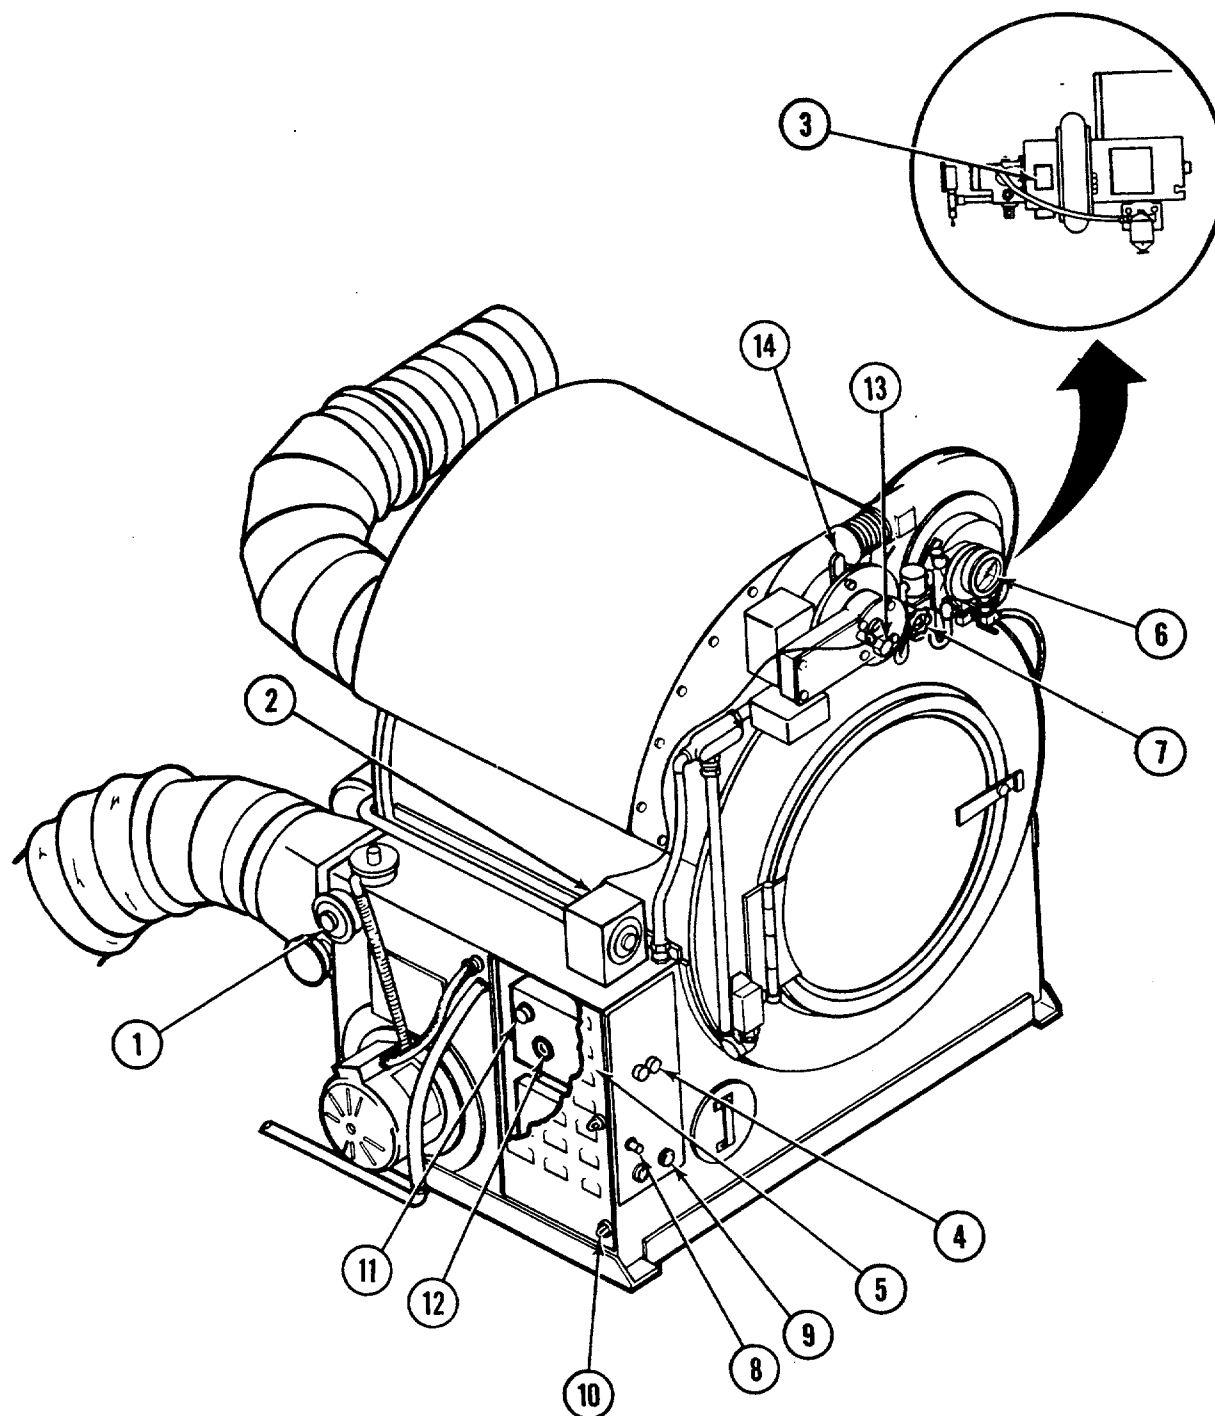

Figure 2-20. Drying tumbler controls .
- (1) Set thermostat (1, FIG. 2-20) as follows:
- (2) Set drying time control (2) to approximately 10 minutes.
- (3) Adjust burner air intake (3) to approximately 1/2 inch (12.7 mm).
- (4) Close fuel shutoff valve (7).
- (5) Loosen three screws (10) on panel door of dryer control panel (5) and open panel door.
- (6) Press reset button (11) on safeguard control unit (12). Close and secure panel door with three screws (10).
- (7) Push start/stop button (4) on dryer control panel (5).
- (8) Check fuel pressure gage (6) for an indication of approximately 100 psi (690 kPa).